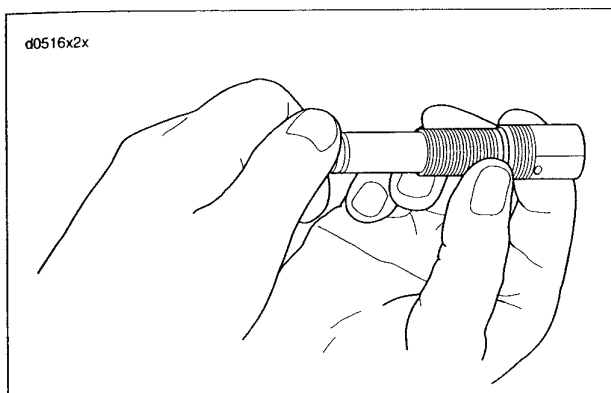

Figure 2-95.
- b. See Figure 2-95. Holding thumb on detent spring and ball, back out (turn counterclockwise) rebound adjuster to last "click." Turn down (clockwise) 17 "clicks".